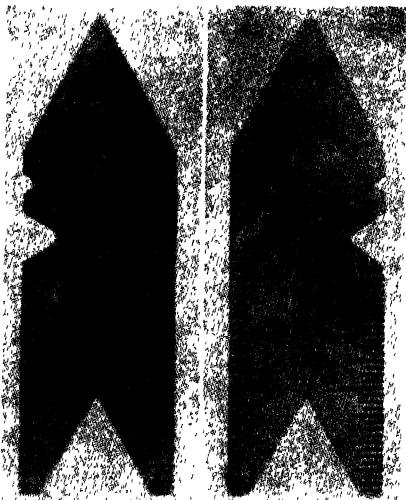

Fig. 17-19. A center gage. (Brown & Sharpe Manufacturing Company)
1. Grind the thread tool accurately to gage (center gage, Fig 17-19).